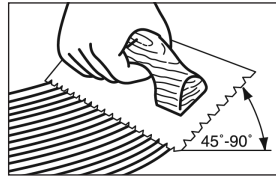

Figure 13
- Hold trowel at a minimum 45° angle (Figure 13) firmly against the subfloor to obtain a 50-60 ft.2 (4-5.5 m2) per gallon spread rate (20-30 ft.2 per gallon for Bruce® Summit Select or Bruce® ProConnect Plus spread with listed trowels) The trowel will leave ridges of adhesive and very little adhesive between the ridges. This method will allow you to still see the chalk lines between the ridges and provide the recommended spread rate.